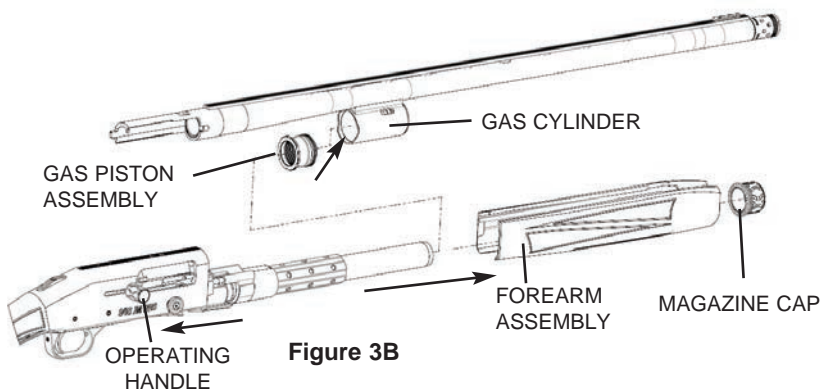

Figure 3B
1. Grasp the operating handle and lock the action in the "OPEN" position (Figure 3B).
2. Unscrew the magazine cap (Figure 3B), Slide the forearm assembly forward and remove it.
3. Ensure the gas piston assembly is in the gas cylinder portion of the barrel (Figure 3B).